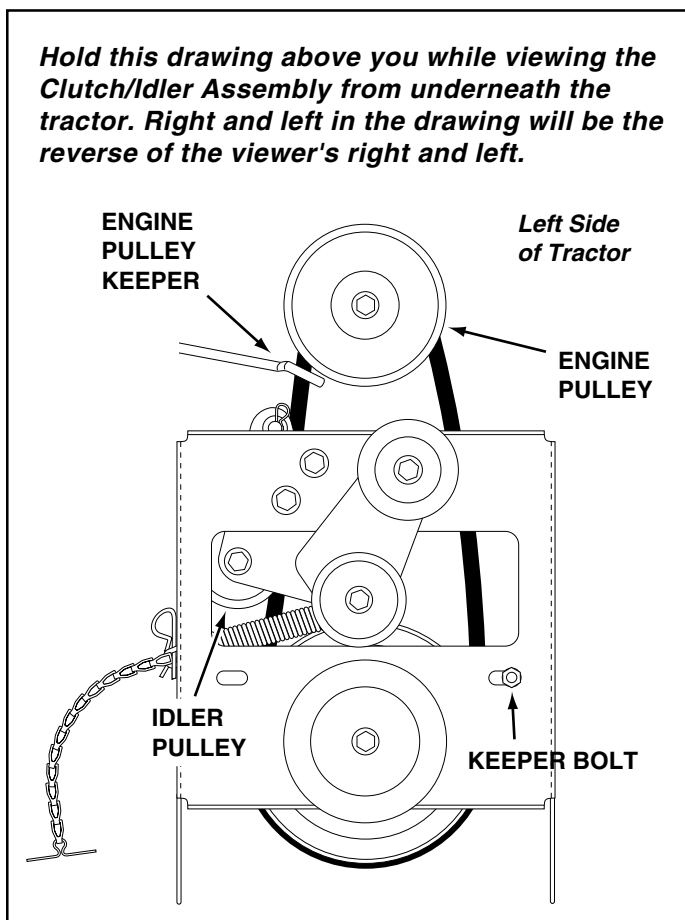

FIGURE 14 VIEWED FROM UNDERNEATH
- Assemble the short "V" belt onto the engine pulley and then onto the large pulley on top of the clutch/idler assembly. The belt must be placed to the inside of the engine pulley keeper, the idler pulley and the keeper bolt located beside the large pulley. See figure 14.